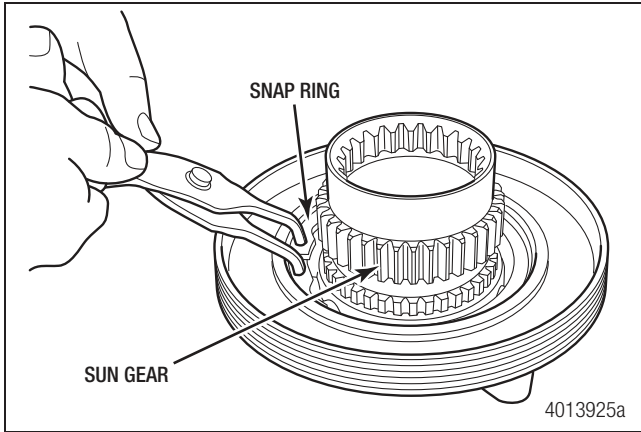
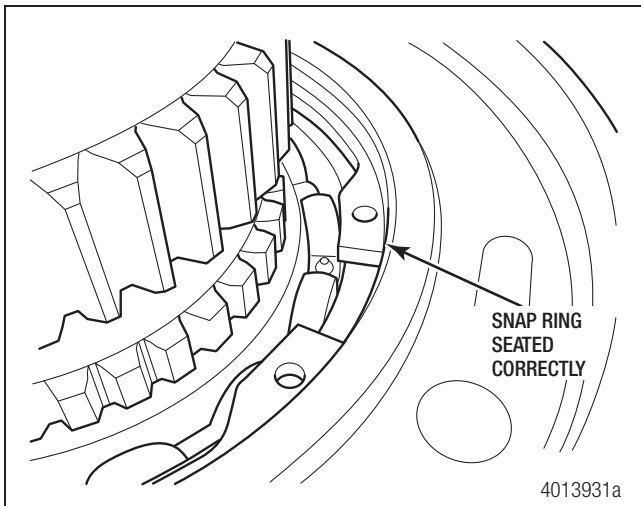

Figure 6.29
Figure 6.30
- Use snap ring pliers to install the large snap ring in the groove on the bearing cage and ensure it is correctly seated. Figure 6.29 and Figure 6.30.